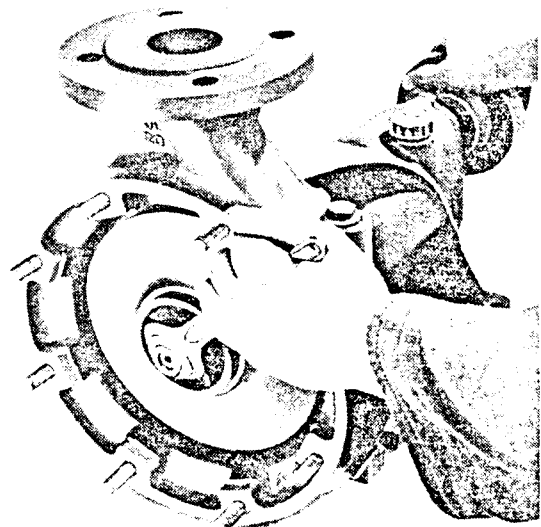

Fig. 17 Undoing the impeller nut
2. Undo the impeller nut (217) – see fig. 17 – and remove the spring washer (222).